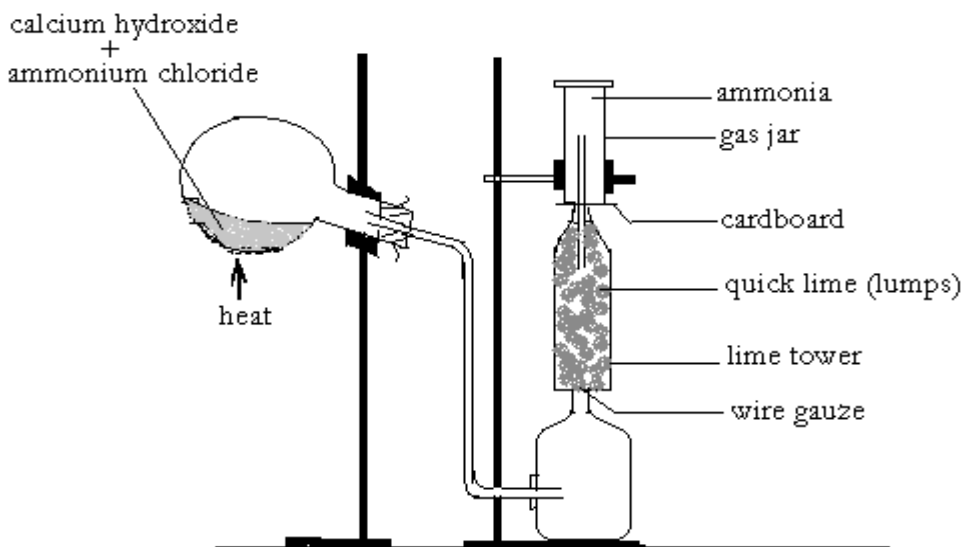

Figure 17.2: Preparation of ammonia gas
3. Arrange the apparatus as shown in the Figure 17.2.